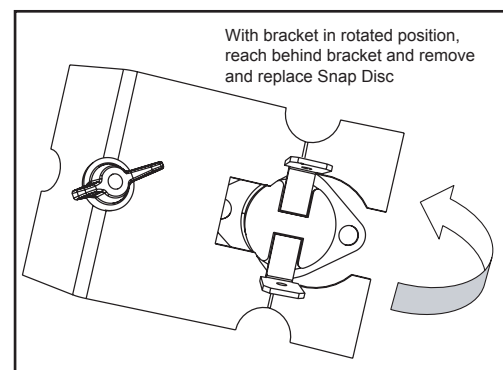

Figure 22.5
- k. When bracket is loose enough, rotate the bracket counterclockwise and away from feed tube. **Figure 22.5.**